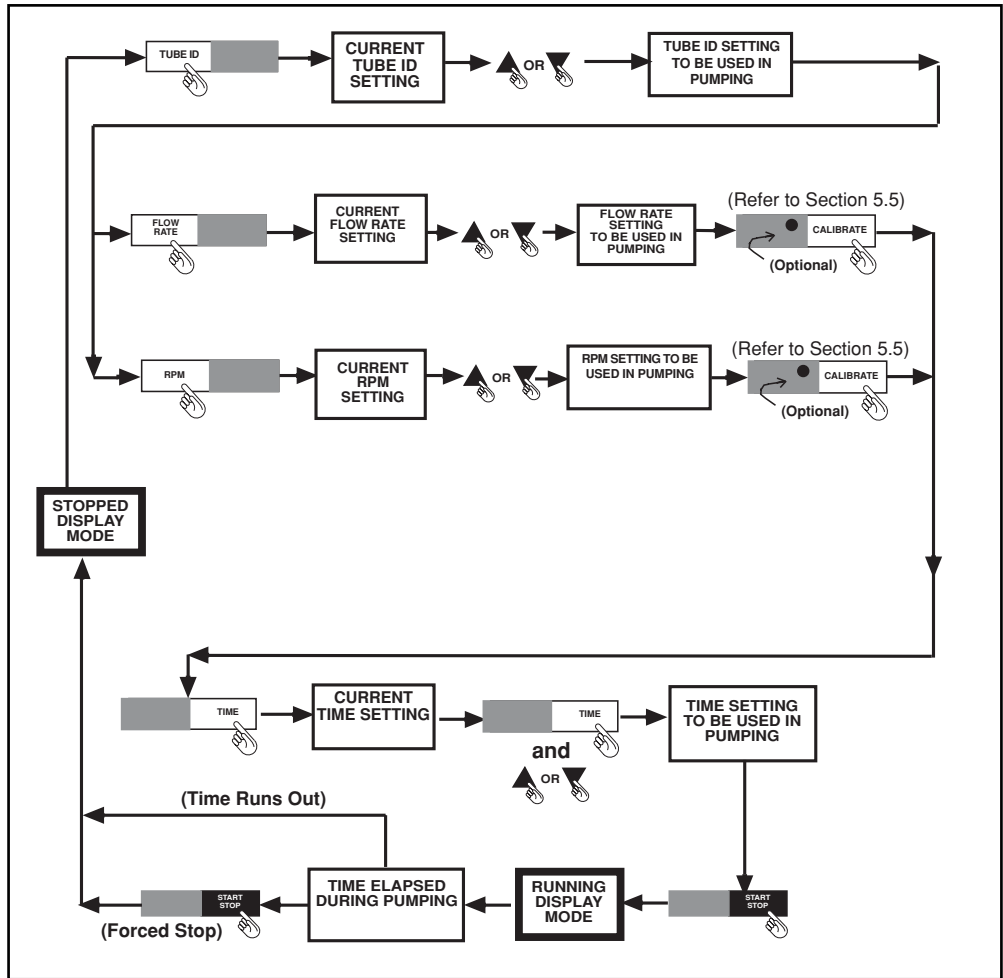

Figure 6-5. Block Diagram: Pumping in the TIME Mode
Figure 6-5 shows the overall block diagram of the TIME Mode in the RUNNING Display Mode.
2. Toggle the *ON/OFF switch* to turn on the unit's power. The display is in the **STOPPED Display Mode**. Refer to Figure 6-5.
xx:xx:xx	<p>Displays current TIME setting</p> <ol style="list-style-type: none"> <li>1. Press the TIME key. The display flashes the TIME setting you selected just before starting the pump.</li> <li>2. Use the UP and DOWN ARROW keys to enter the TIME setting you desire. As you use the UP and DOWN ARROW keys, the display changes accordingly. The SECONDS scroll, When you reach 0 or 59 seconds, the minutes setting changes. When you reach 0 or 59 minutes , the HOURS setting changes. Refer to Figure 6-5.</li> </ol> <p>NOTE: While the pump is running, you can not use the TIME key to toggle from SECONDS to MINUTES TO HOURS.</p>